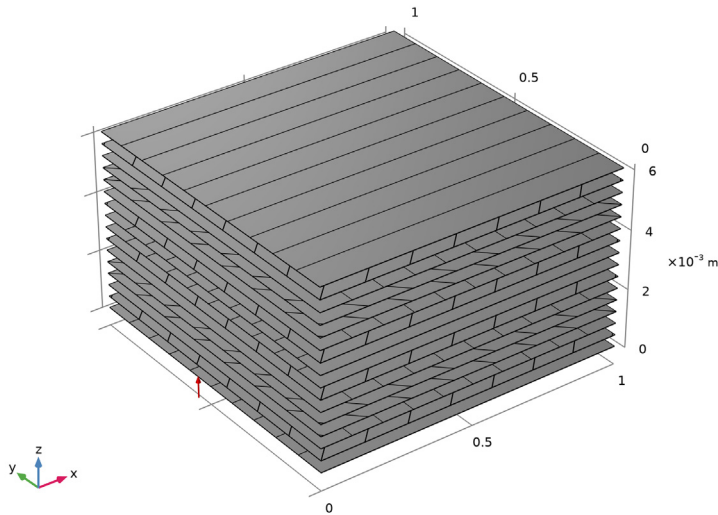

Figure 3: Stacking sequence  $[[0/45/90/-45]_s]_2$  in rim region.
- Rim:  $[[0/45/90/-45]_s]_2$  (Figure 3)